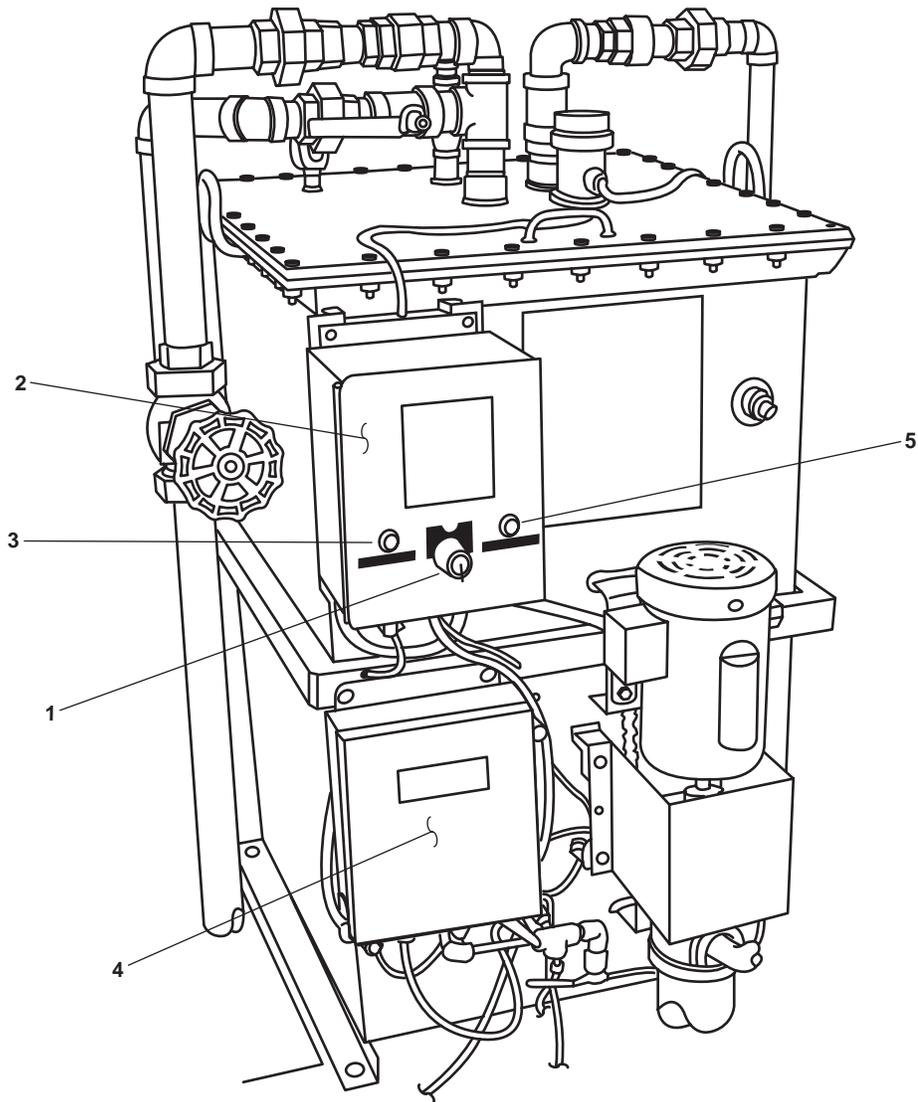
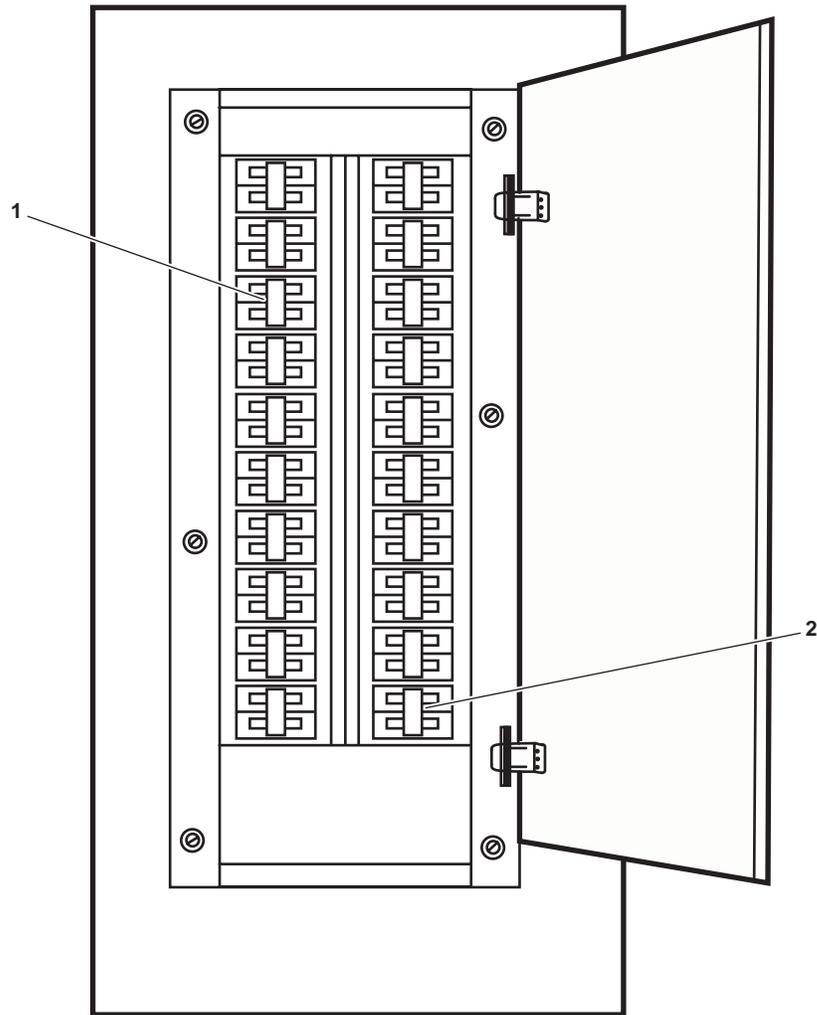

Figure 1. OWS Control Panel
Figure 2. 120V Distribution Panel No. 4
1. Set the OWS switch (figure 1, item 1) on the OWS control panel (figure 1, item 2) to OFF.
2. Set to ON the OILY WATER SEPARATOR circuit breaker (figure 2, item 1) in the 120V distribution panel No. 4. The green POWER AVAILABLE indicator (figure 1, item 3) will illuminate to indicate that the OWS control panel has power available.
6. Set to ON the OIL CONTENT MONITOR circuit breaker (figure 2, item 2) in the 120V distribution panel No. 4. The red indicator (figure 5, item 1) on the OCM diverter valve position indicator (figure 5, item 2) will illuminate to signal that the OCM has power available.